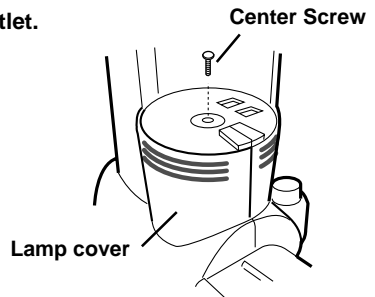

Fig.33
- 2 Unscrew the center screw. (Fig.33)